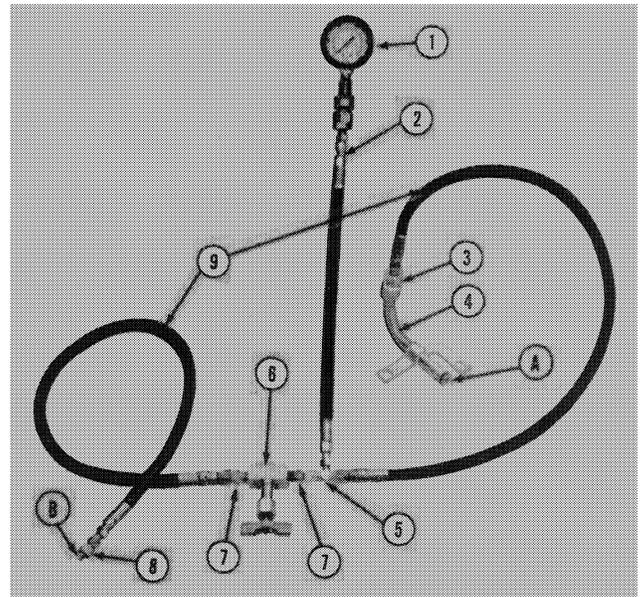

Figure 5
- 5610, 6610, 7610, 7710 - Disconnect and remove the pump pressure pipe. Install fitting No. 4649 in the pump and fitting No. 0013 in the center housing and connect the balance of the test equipment shown in Figure 5.